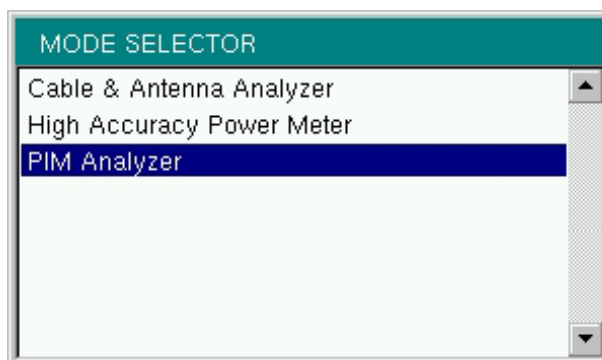

Figure 2-14. Mode Selector Menu
To access the functions under the Mode menu, select the **Shift** key, then the **Mode (9)** key. Use the directional **Arrow** keys to highlight the selection, and press the **Enter** key to select. The list of modes that appears in this menu will vary depending upon the options that are installed and activated in your instrument. Figure 2-14 is an example of the Mode menu. Your instrument may not show the same list.